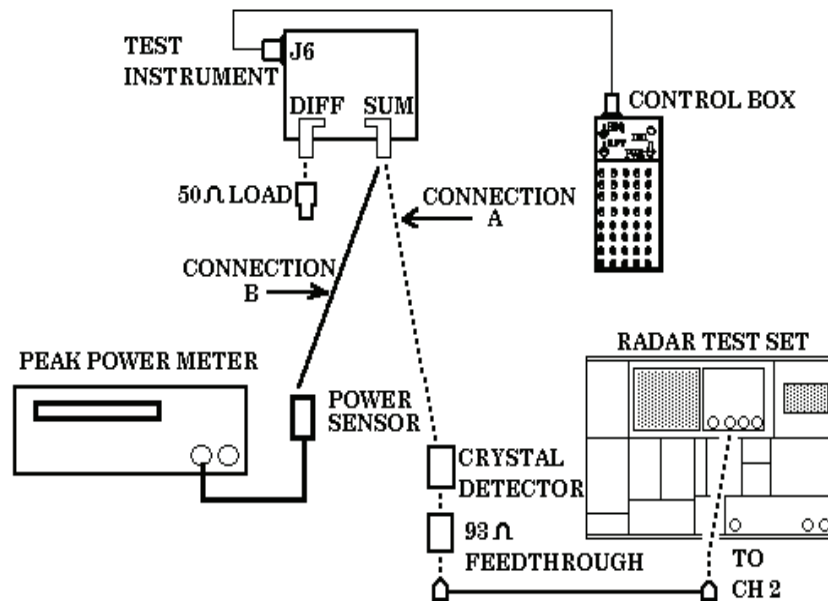

Figure 8. Transmitter power - equipment setup.
- (1) Connect equipment as shown in figure 8, CONNECTION A.
- (2) Adjust radar test set oscilloscope controls as listed in (a) through (e) below:
- (3) Set control box **PWR** switch to **ON** and ensure **RPT** and **SEQ** switches are in the **OFF** position.
- (5) Connect equipment as shown in figure 8, CONNECTION B.
- (6) Press TI **LAMP TEST** pushbutton.
- (7) Measure peak power from **SUM** connector. Peak power meter will indicate between + 2 and + 6 dBm.
- (8) Connect equipment as shown in figure 8, CONNECTION B, except reverse **SUM** and **DIFF** connections (50 Ω load to **SUM** and power sensor to **DIFF**).